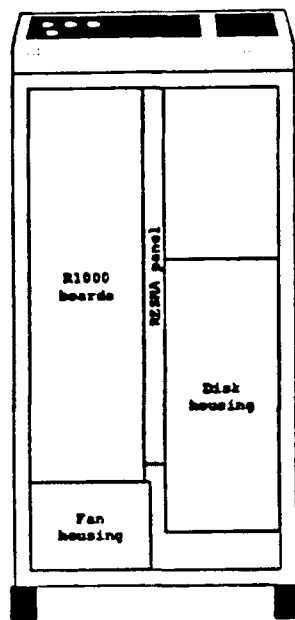
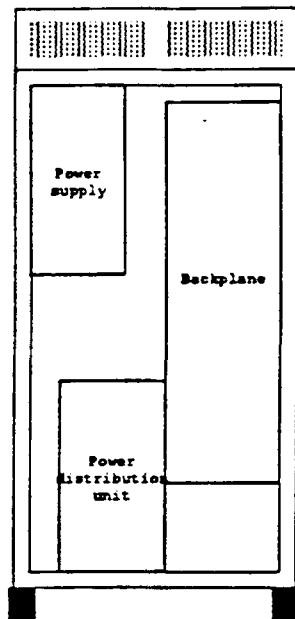

Figure 1.2 - Series 400S, Front View
Figure 1.3 - Series 400S, Rear View
The 400S cabinet contains (See Figure 1.2 and Figure 1.3):
- ☐ 1. Verify circuit breakers CB1 and CB2 are in the *OFF* position on the Power Distribution Unit (PDU). (Refer to Figures 1.3 and 1.7 for the location of the PDU and circuit breakers).
- ☐ 6. Feed the main AC power cord through the cutout in the floor tile closest to the back of the PDU. (Refer to Figure 1.3 for location of PDU).